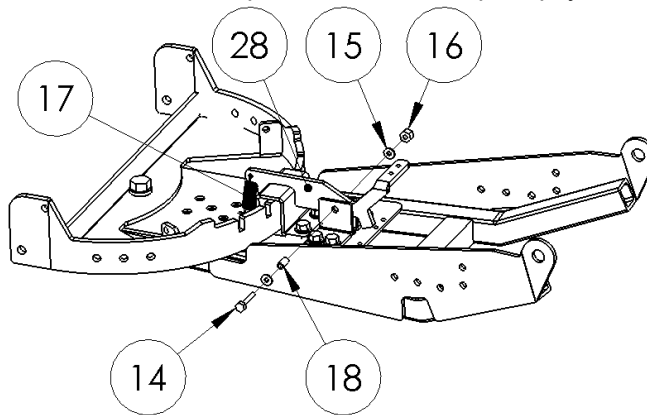

Figure 6
- 4) Attach the Pivot Lock Lever (#28) to the Pivot Lever Risers (#30) (Attached in Step 3) via the 1/4" Bolt (#14), washer (#15), Nylock Nut (#16) and Aluminum Spacer (#18) included in your kit. **(Figure 6)**. Tighten the 1/4" hardware such that the Pivot Lock Lever can still move freely. You can now tighten the 3/8" bolts from the previous step to secure the Pivot Risers. Using needle nose pliers, attach the Lock Lever Spring (#17) to the nose of the Pivot Lock Lever (#28) and the slit in the Pivot Lever Support Bracket (#29). The Pivot Lock Lever should move freely when the handle is depressed and return promptly when released.